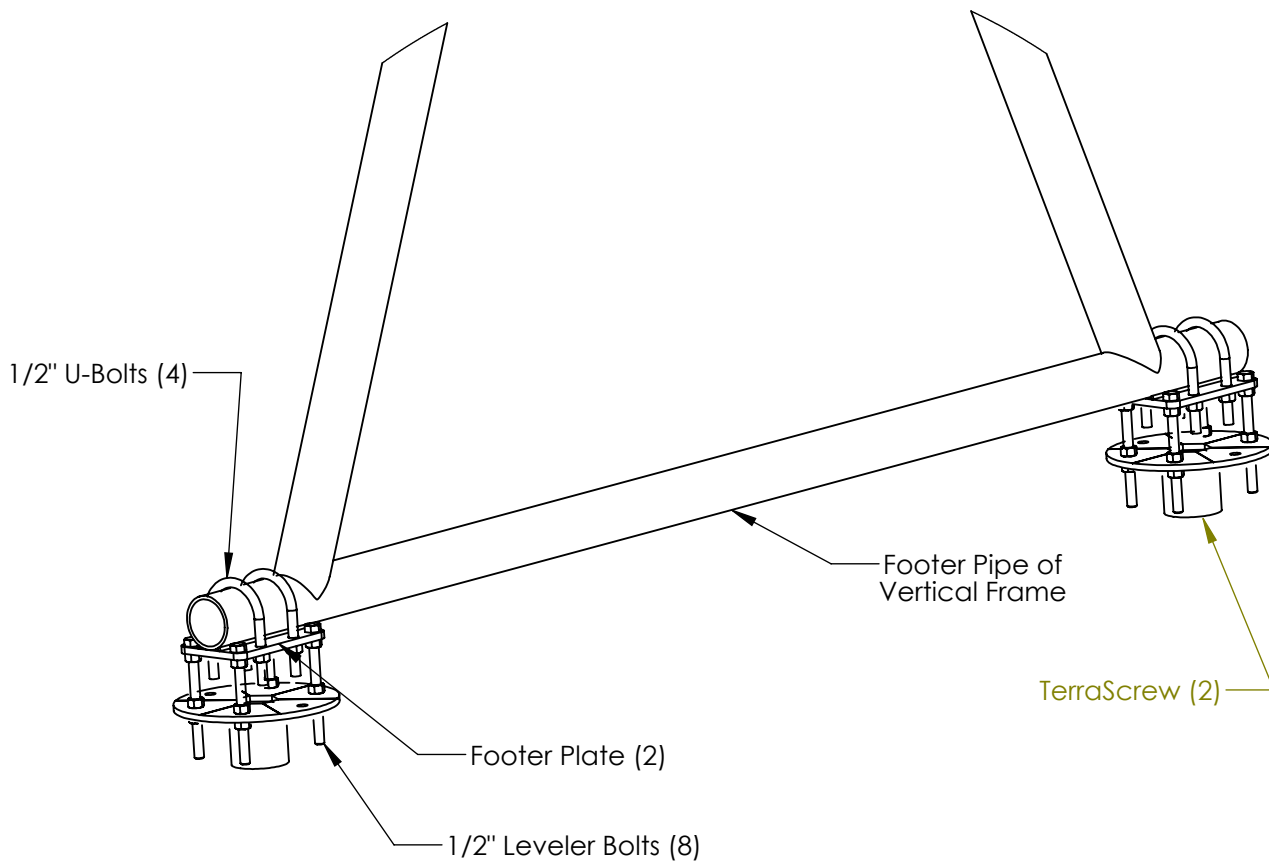

Figure 4
1. Assemble Footer Pipe Mounting Plates onto TerraScrew Piers with the 1/2" Leveling Bolts (Fig.4)
2. Mount and level the Vertical Frame onto the Plates with the 1/2" U-Bolts (Fig.4).